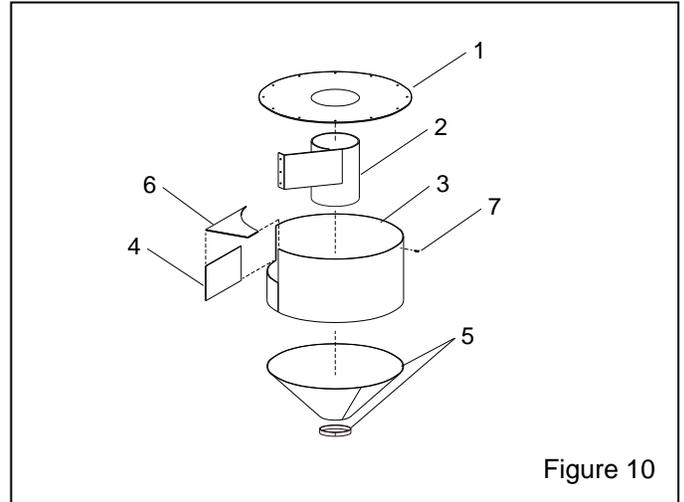

Figure 10
**9.3 Rubber Liners, Figure 10**